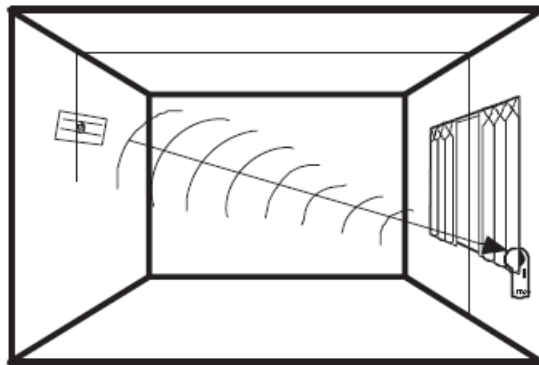

Fig. 3
For optimal performance the Wireless VITRON should be mounted as nearly opposite to the glass area to be protected, as shown in Fig 3.
- Opposite Wall –Mounted (For optimal results, Wireless VITRON is centered opposite glass, see Fig. 3).